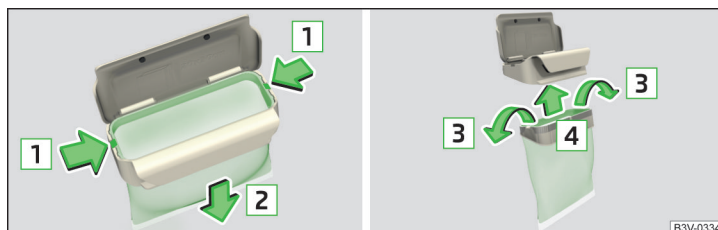

Fig. 113 Replace bags
- Press the two locking lugs on the frame in the direction of arrow **1** » Fig. 113.